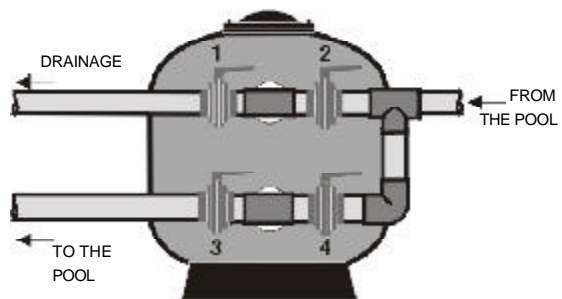

FIG.12
8.1. BATTERIES WITH 4 VALVES (FIG.12)